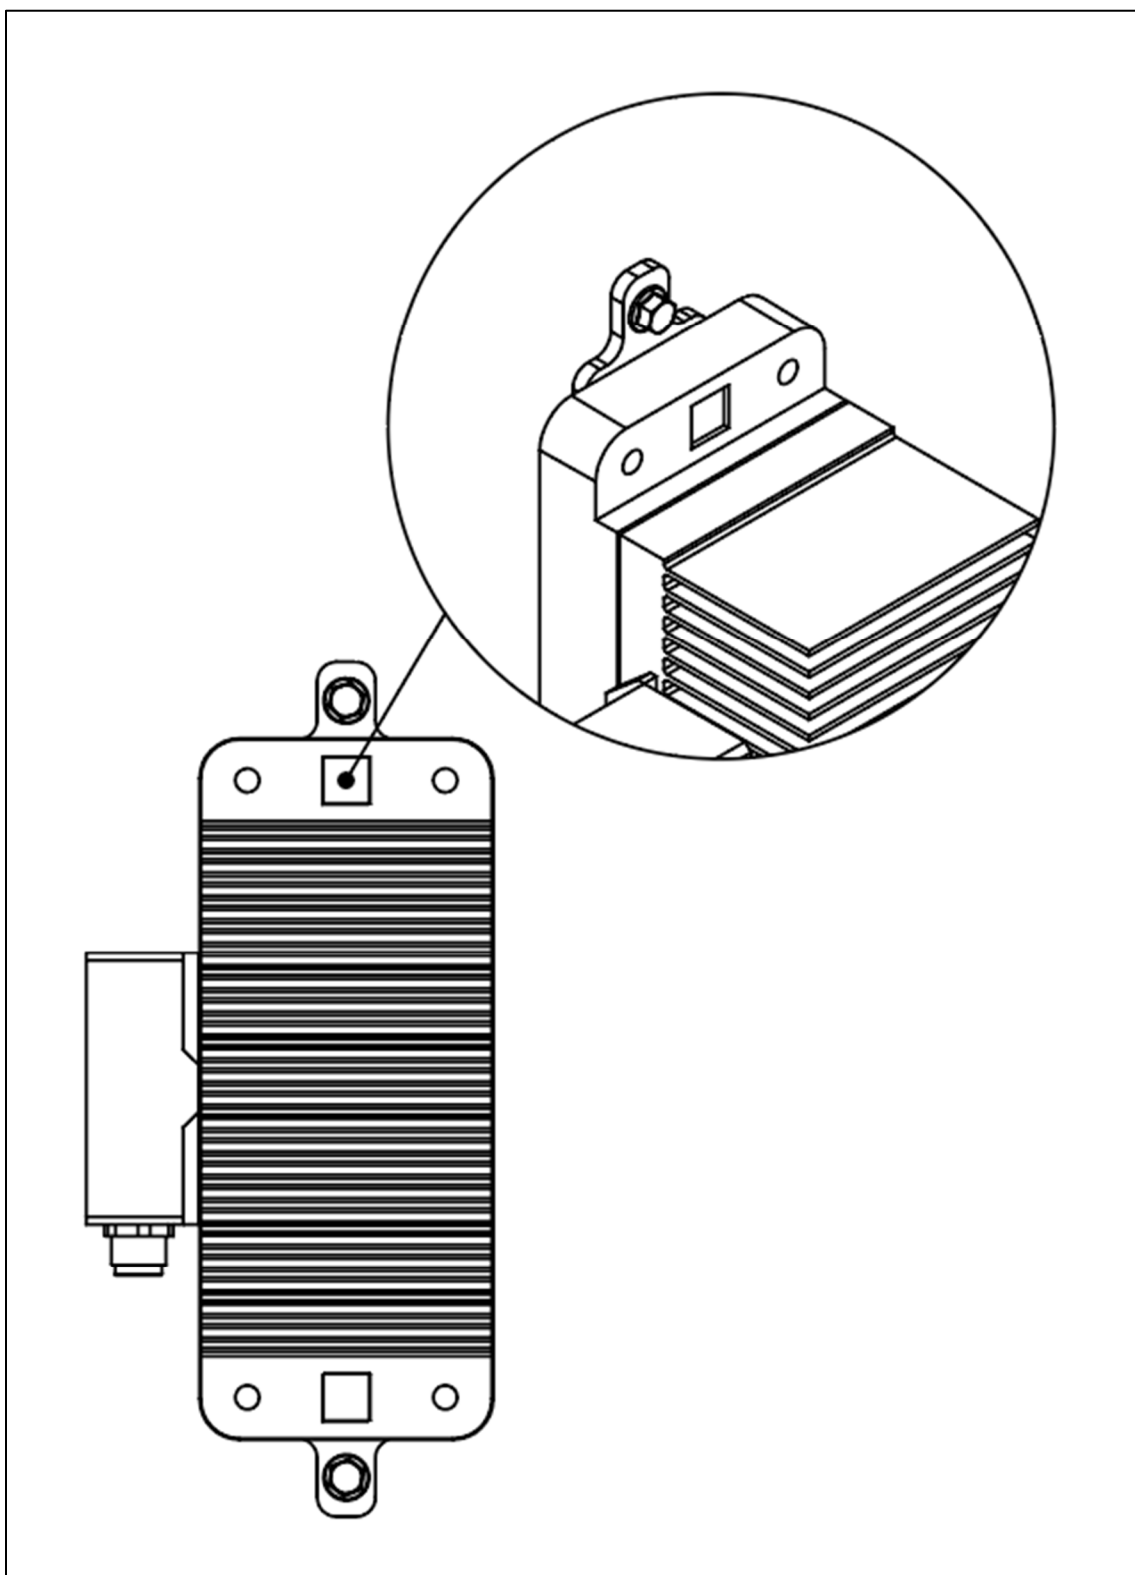

Figure 10.- IET Flat mounting option with a screw
3. For installation on a flat surface, it is necessary to drill a hole, taking as a reference the distance between the holes in the top and lower tabs, and insert a screw with a 6 mm maximum diameter through the accessory as shown in Figure 10.